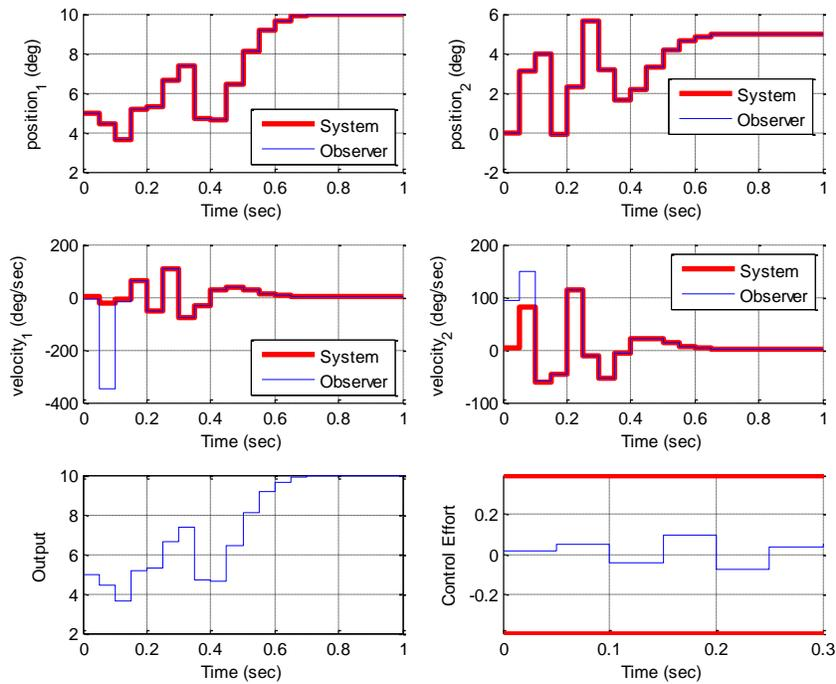

Figure 13. Results for problem 4d.
d) Same conditions as **b**, but now the positions of both disk 1 and disk 2 are known (the output is the position of the first disk). Place the state feedback poles all at 0.2 and the observer poles at [0.01 0.015 0.02]. For a 10 degree step input you should get the graph shown in Figure 13. Turn in your plot.